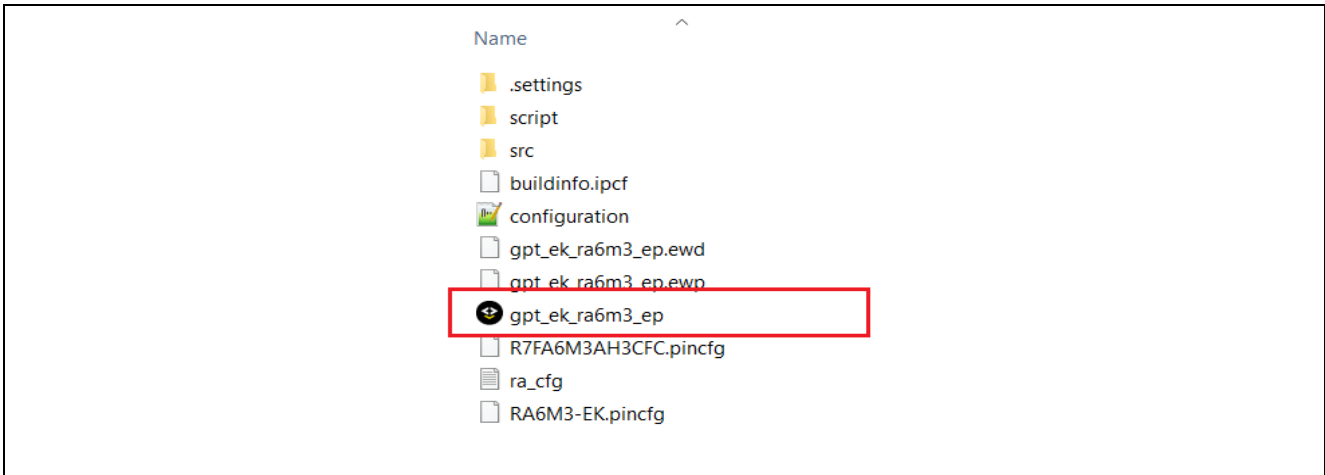

Figure 20. Opening the IAR Project File
2. Open the IAR project by double clicking the IAR project file as shown in Figure 20.